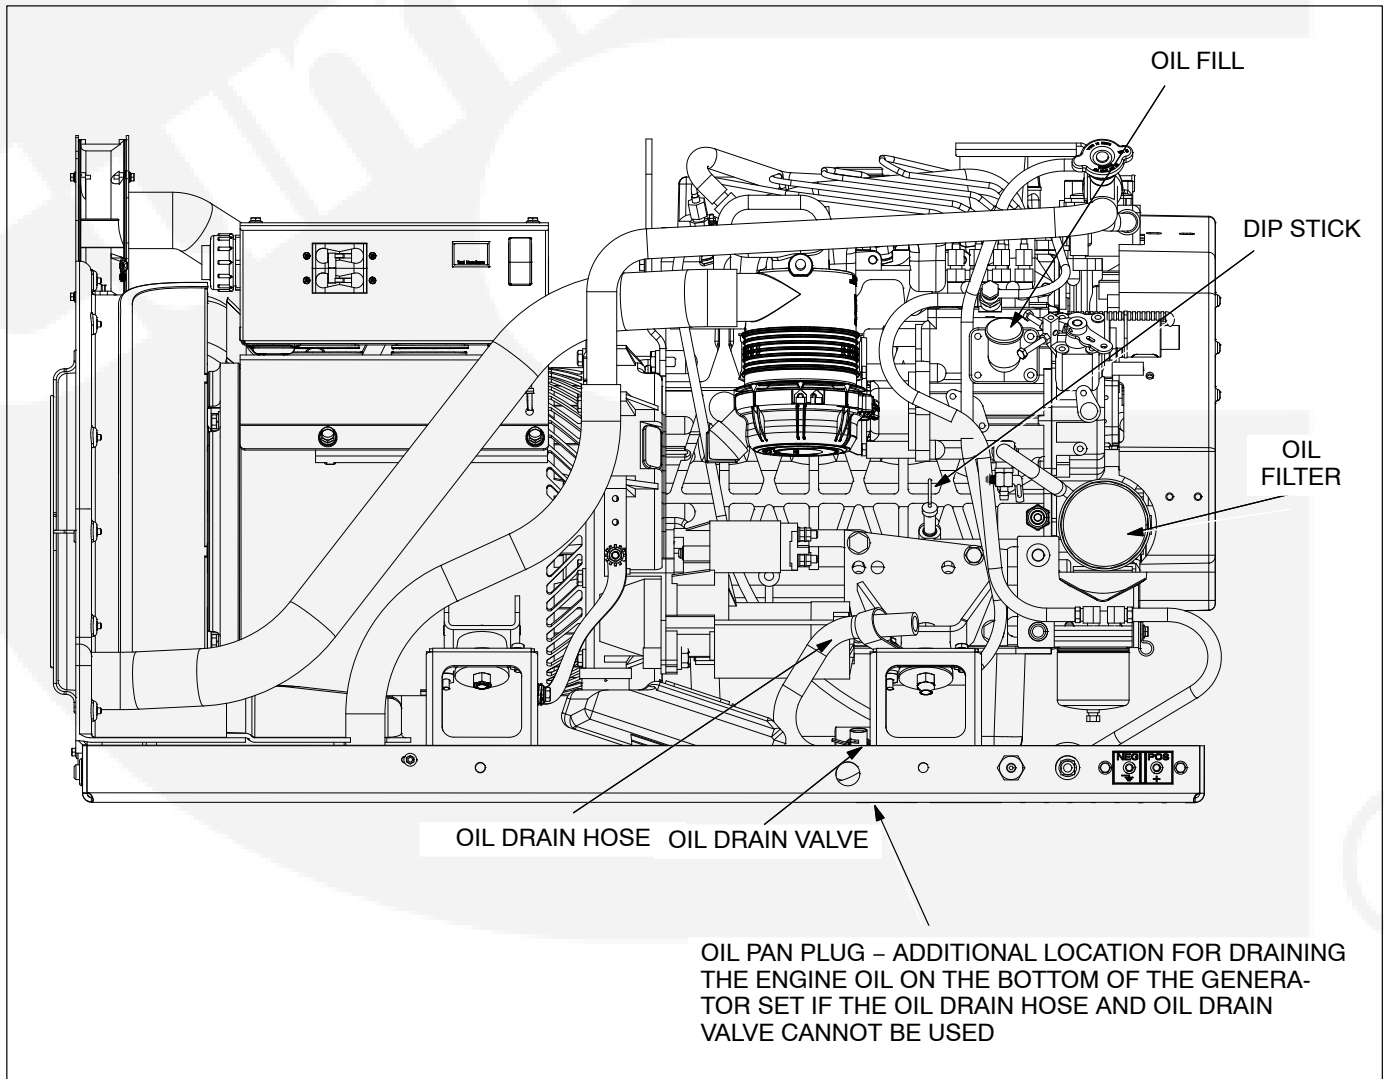

FIGURE 3-1. ENGINE OIL MAINTENANCE
Check engine oil level (Figure 3-1).
2. Pull out the oil dip stick, wipe it clean, reinsert it and pull it out again to check the oil level (Figure 3-1).
your generator set). Finally, drain all the oil from the engine into a suitable container. **Reinstall the oil drain hose securely, and close the oil drain valve or reinsert the oil drain plug** (Figure 3-1).
5. Refill with 10 quarts (9.5 liters) of oil, check oil level (Figure 3-1).